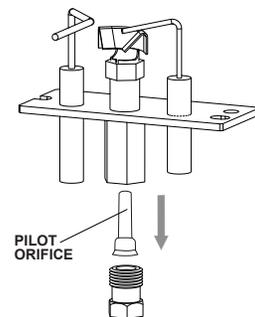

Fig. 3
- 12. Remove the 2 screws securing the pilot in place. Using a backup wrench, remove the pilot tube from the bottom side of the pilot (**Fig 3**). Remove the pilot orifice and replace with the one supplied. Re-attach the pilot tube and pilot to the bracket.